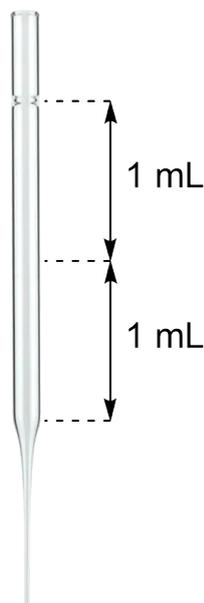

Figure 2: Pasteur pipette with approximate volume indications (scale 1:2)
- With the flask still in the ice-water bath, slowly **add** NaHSO₃ solution (aq, 40%) (ca. 5 mL from the vial "NaHSO₃ NaHSO₃ (aq)"); 1 mL corresponds to ½ Pasteur pipette, see Figure 2) with a Pasteur pipette. **Keep** stirring. A white precipitate (product A) will form.